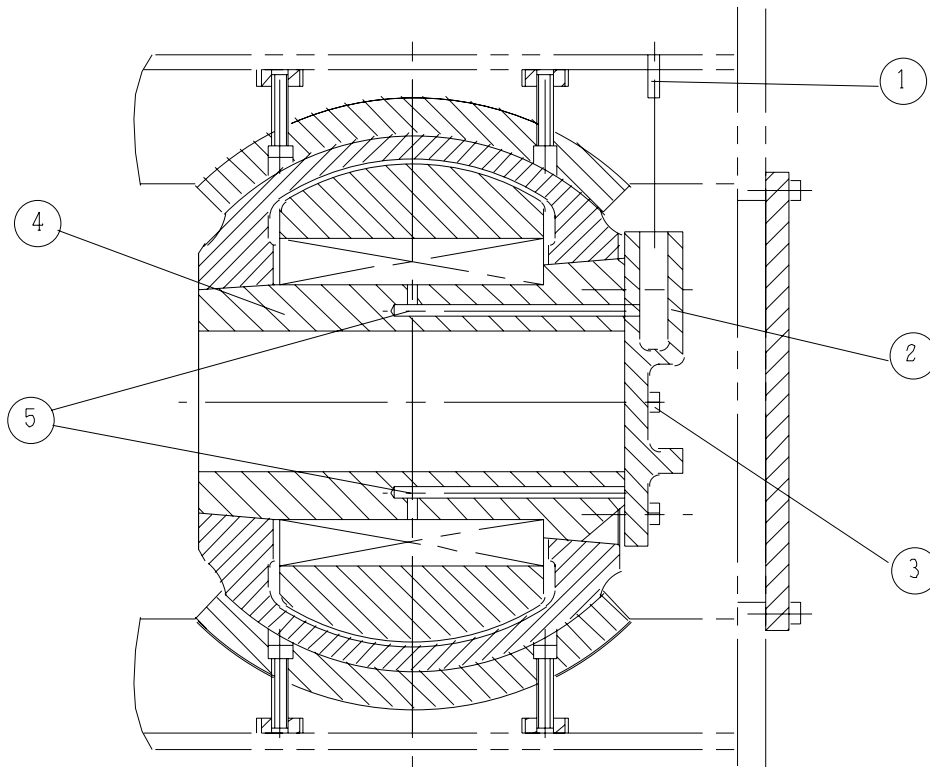

Fig. 20 Lubrication oil path of crosshead bearing
Oil passage from the top of the crosshead guide compartment to the crosshead bearing is shown in Figure 20; oil accumulates in the compartment over the crossheads. The oil runs through the nipple (1) into the crosshead retainer to the oil passages (5) and on to the crosshead pin bearing. As noted, the duplicate set of oil passages (5) in the crosshead pin permits the crosshead pins to be rotated without having to give attention to hole alignment. This permits the installation of crosshead pins from either direction.